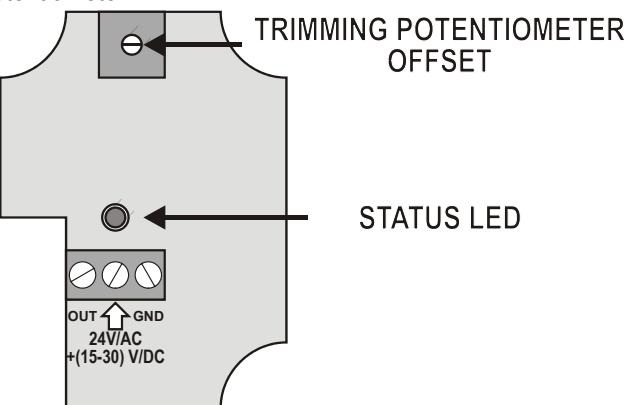

Fig. 4 Wiring Connection and Trimming Potentiometer
The output signal is adjusted using the trimming potentiometer located on the sensor board (see Fig. 4). The offset of the output signal is increased or lowered by means of this potentiometer.
- After approx. 30 minutes of operation, one must verify the output signal. The voltage level should lie in the range 1...3 V. Correct an excessively high or excessively low voltage level using the trimming potentiometer: The potentiometer should be turned to counterclockwise until the red status LED (located on the sensor board, see Fig. 4) is almost extinguished. The output signal will then amount to approx. 0.7 V.